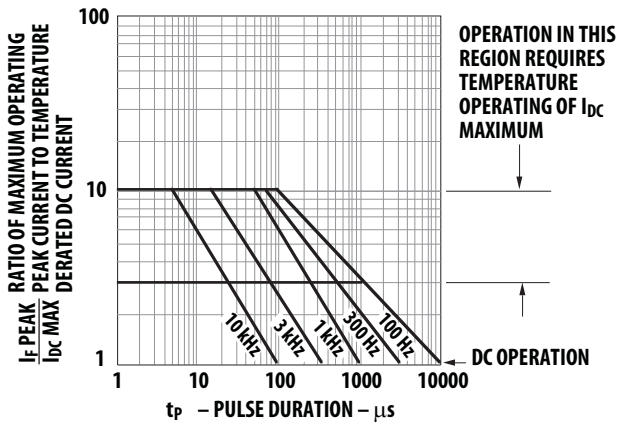

Figure 5. Maximum Tolerable Peak Current vs. Pulse Duration – HER, Orange.
3. See Figure 5 to establish pulsed conditions.